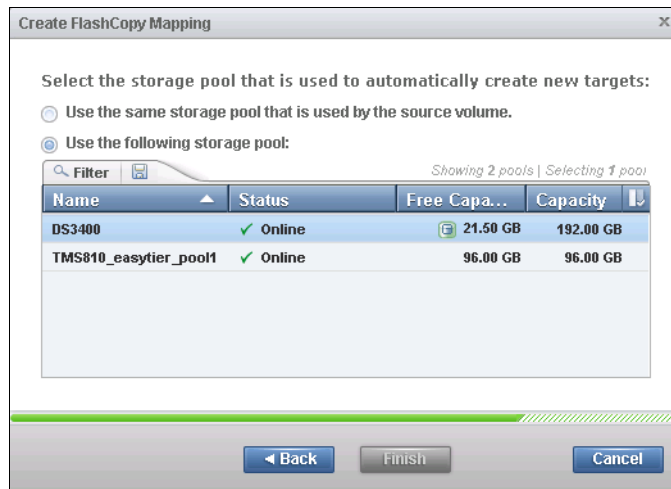

Figure 11-23 Choose another storage pool to create the volume
7. You can also specify another storage pool for your new volume (Figure 11-23).